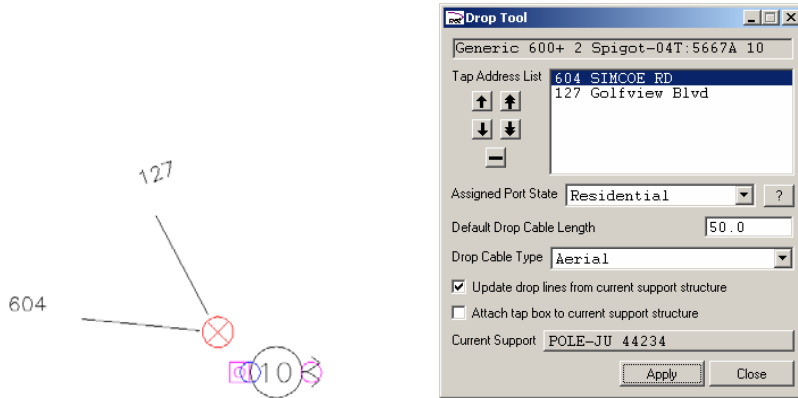

Figure 206 – Drop Tool showing auto-created drops and assignments of addresses to tap ports.
3. A panel similar to that shown in Figure 206, below will be displayed.